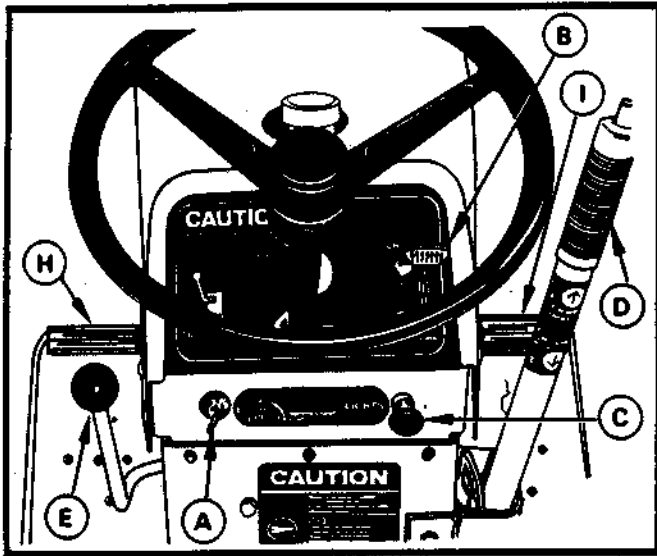
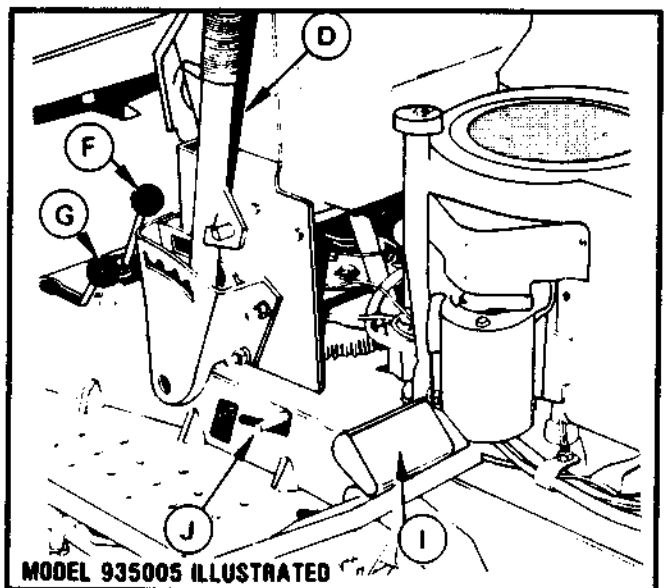

FIGURE 1
FIGURE 3
(A) IGNITION AND STARTER SWITCH — FIGURE 1
(B) THROTTLE-CHOKE CONTROL LEVER — FIGURE 1
(C) LIGHT SWITCH — FIGURE 1
(D) ATTACHMENT LIFT LEVER — FIGURE 1
(E) IMPLEMENT POWER CONTROL — FIGURE 1
(H) CLUTCH PEDAL — FIGURE 1
(I) BRAKE PEDAL — FIGURE 1
(J) PARKING BRAKE LOCK — FIGURE 3
A Parking Brake Lock is provided to prevent the tractor from moving when parked or left unattended. To lock the brake, pull the parking brake lock up with the pedal fully depressed. Then release the brake pedal. Figure 3 shows the parking brake lock engaged. Clutch pedal must not be depressed when locking brake. Parking brake lock may be disengaged by depressing either brake or clutch pedal.
1. Depress Clutch Pedal (A) and hold the tractor in position by depressing the Brake pedal (B). See Figure 1.
3. Place Implement Power Control (E) Figure 1, in the rear (disengaged) position.
4. Raise Throttle-Choke Control Lever (D) Figure 1, past the offset in the slot to the "CHOKE" position.
5. Turn ignition key (C) shown in Figure 1 clockwise all the way. Release key as soon as the engine starts and gradually lower the Throttle Choke Control Lever past the offset until the engine runs at 1/2 throttle.
1. Move the Speed Selector Lever (F) (Figure 1) to the "NEUTRAL" position.
2. Disengage the Implement Power Control (E), Figure 1.
3. Engage Parking Brake Lock (J) by depressing the Brake Pedal (I) (Figure 1) and pulling up on the Parking Brake Lock (J) (Figure 3).
2. Release Parking Brake Lock (A) by depressing the Brake (B) or Clutch Pedal (C) (Figure 1) until the lock disengages.
3. Depress Clutch Pedal, place Speed Selector Lever (D) and High-Low Range Selector (E) (Figure 1) into the desired gear and range and slowly release the pedal to provide smooth acceleration.
5. To raise or lower the attachment use the Attachment Lift Lever (F).
6. To start the attachment, engage the Implement Power Control (G) slowly with the engine running at 1/2 throttle, then increase speed to full throttle.
7. To stop the tractor, fully depress Clutch and Brake Pedals and place Speed Selector Lever in "NEUTRAL". Fully depress Brake Pedal and engage the Parking Brake Lock when parking or leaving the tractor. (Figures 1, 2 & 3)